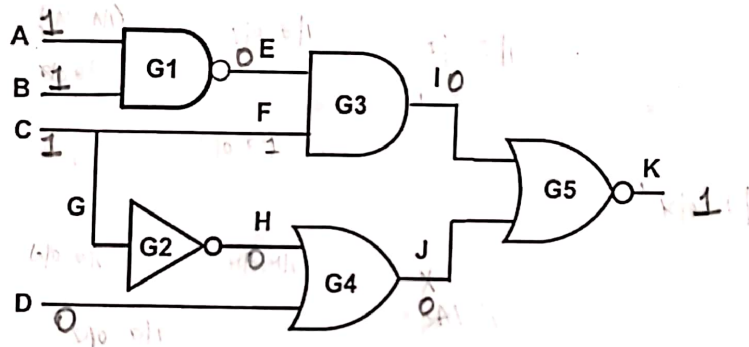

Figure 1
1. Answer the following questions for the circuit in Figure 1: [3+4+3+5+5=20 points]